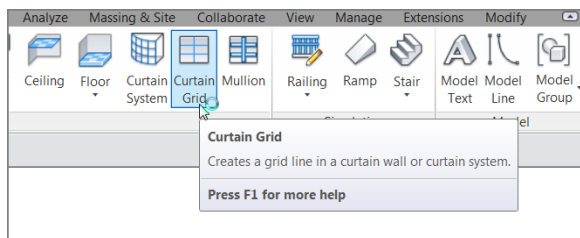

FIGURE 16.30: Click the Curtain Grid button on the Build panel of the Architecture tab.
1. On the Build panel of the Architecture tab, click the Curtain Grid button, as shown in Figure 16.30.